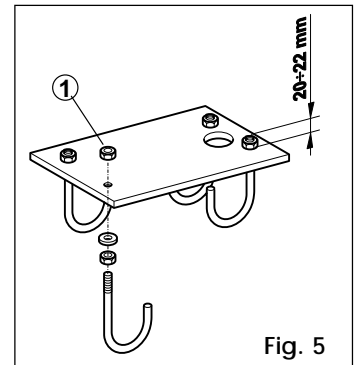
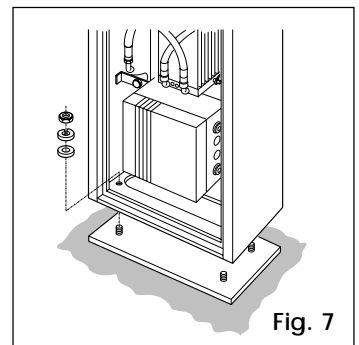

Fig. 5
Fig. 7
- 1) Assemble the base plate as shown in Figure. 5.
- 1) Undo the 4 nuts (1, fig 5) and fasten the housing to the base plate as shown in fig.7. The housing should normally be installed with the door on the premises side.